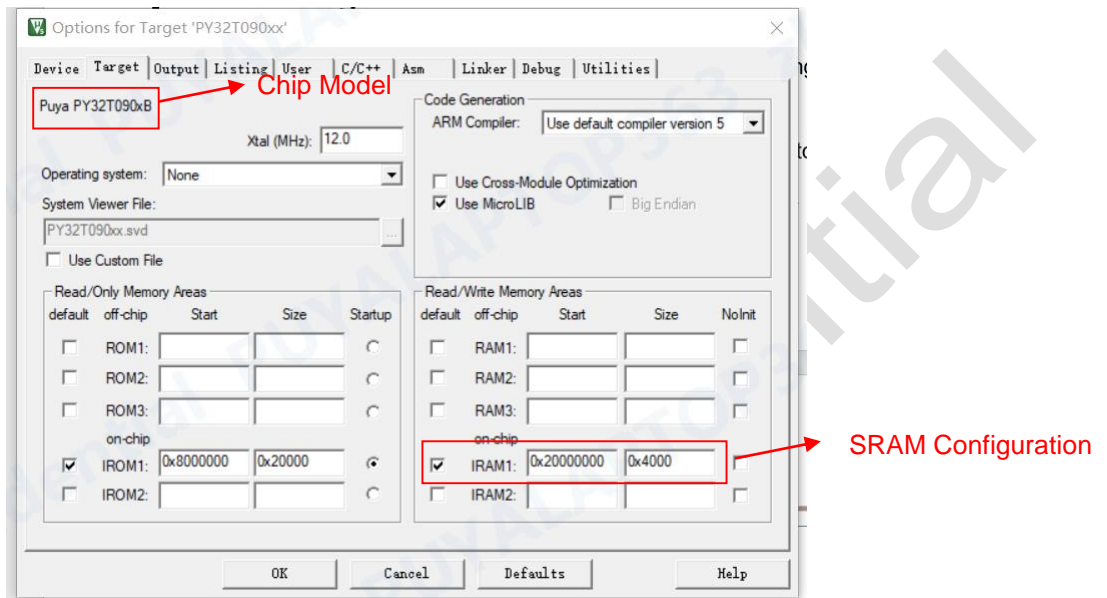

Figure 1-1
- It is recommended to set IRAM to the SRAM start address and SRAM capacity of the chip. As shown in Figure 1-1 for an example, when using chips from the PY32T090xB series, the IRAM configuration should be set to the SRAM start address and SRAM capacity of the chip. For the SRAM capacity of the PY32T090 series, please refer to Table 1-1 in the “PY32T090\_ Datasheet”: